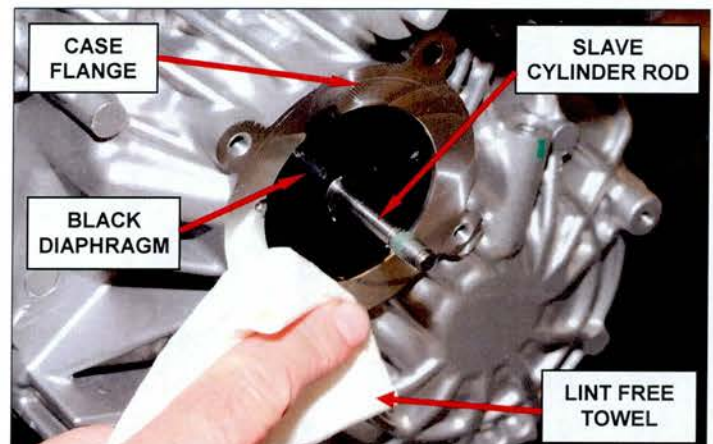

Figure 21 – Clean Case Flange
50. Using a lint free towel, carefully clean the transaxle case flange and black diaphragm for the slave cylinder (Figure 21).